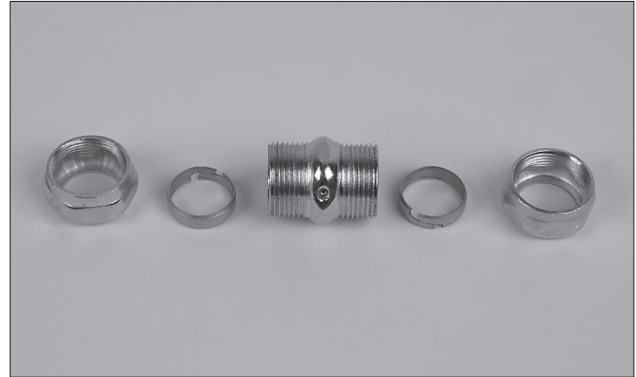

FIGURE 5-97
1. Remove the rings from both ends of the compression union. See Figure 5-97.